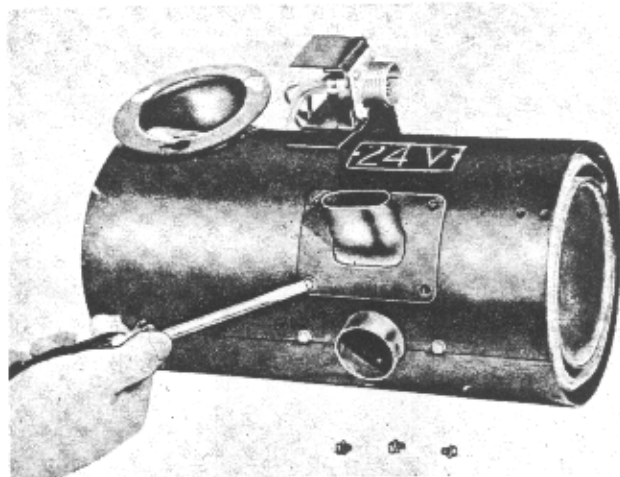

Figure 46
1. Remove plate from around recirculating exhaust outlet on MR series heaters (Figure 46).